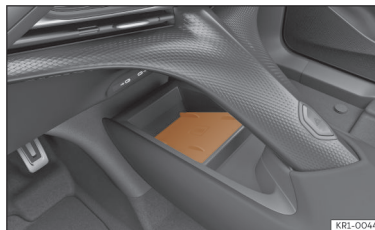

Fig. 164 Centre console: slot for mobile phone connection.
- Place your mobile device in the middle of the pad with the screen facing up >>> **Fig. 164**, >>> .